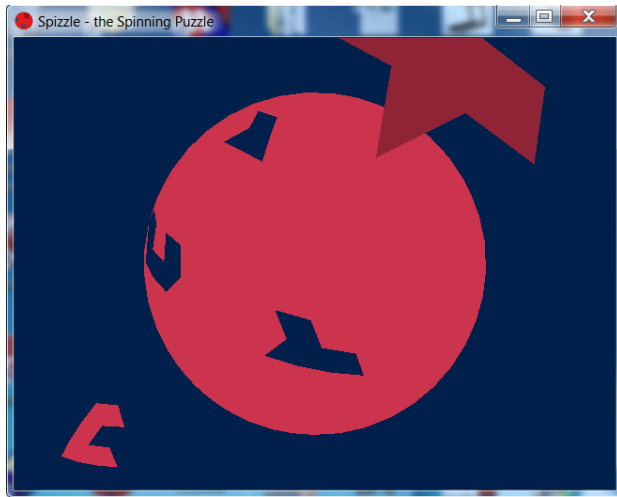

Figure 1: ‘Spizzle’ screen capture
8. Launch the Spizzle demo by double clicking the application “spizzle.exe” on your desktop. The window in figure 1 should appear.